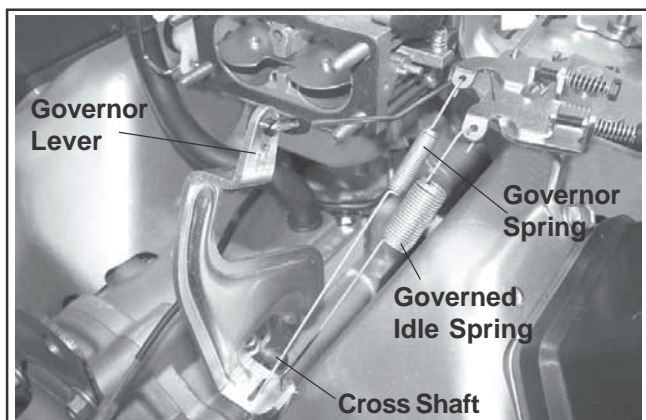

Figure 5-36. Governor Linkage (Air Cleaner Removed for Clarity).
- One end of the cross shaft protrudes through the crankcase. The rotating action of the cross shaft is transmitted to the throttle lever of the carburetor through the external throttle linkage. See Figure 5-36.
Make this adjustment whenever the governor arm is loosened or removed from the cross shaft. See Figure 5-36 and adjust as follows: